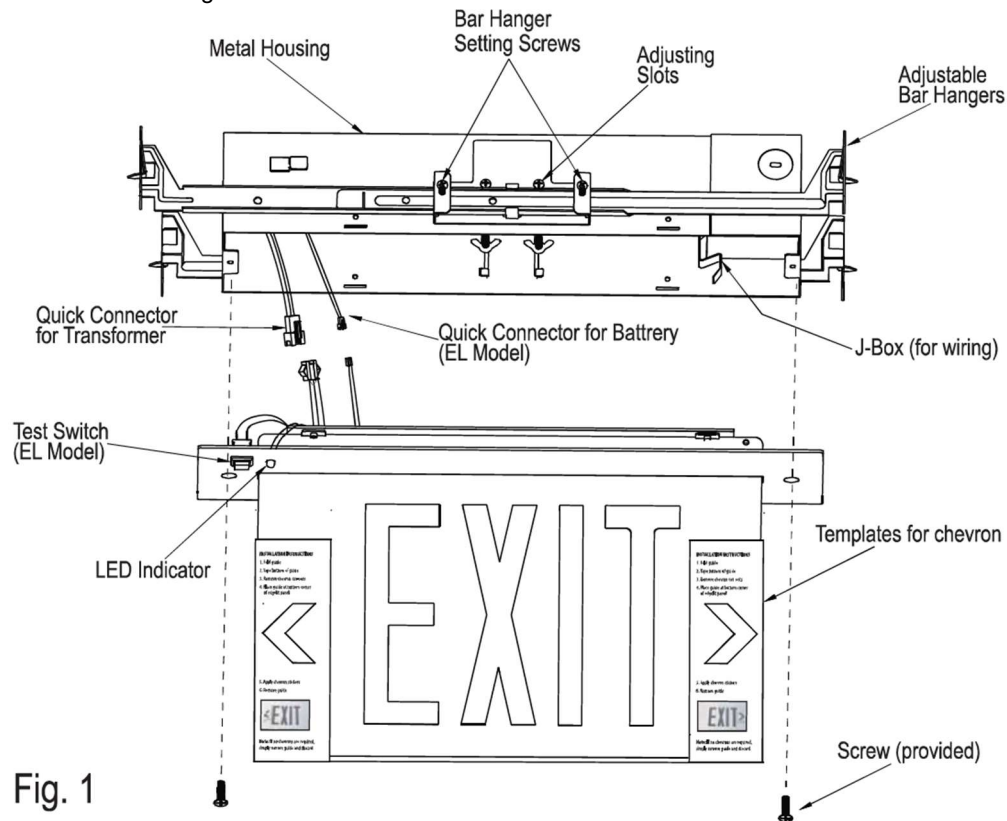

Fig. 1
1. See figure 1 before beginning installation.